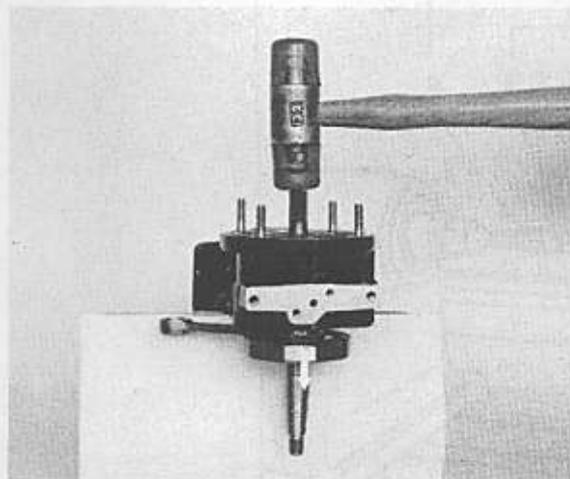

Fig. 28
3. Using a plastic mallet knock the crankshaft from the lower crankcase half (Fig. 28).